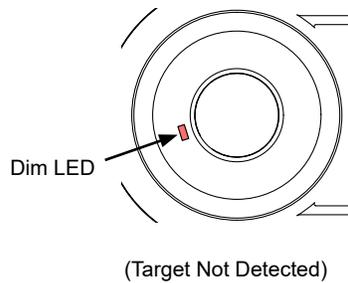

Figure 7
- With the power on and no target detected, the Red LED should be dimly lit. See **Figure 7**.